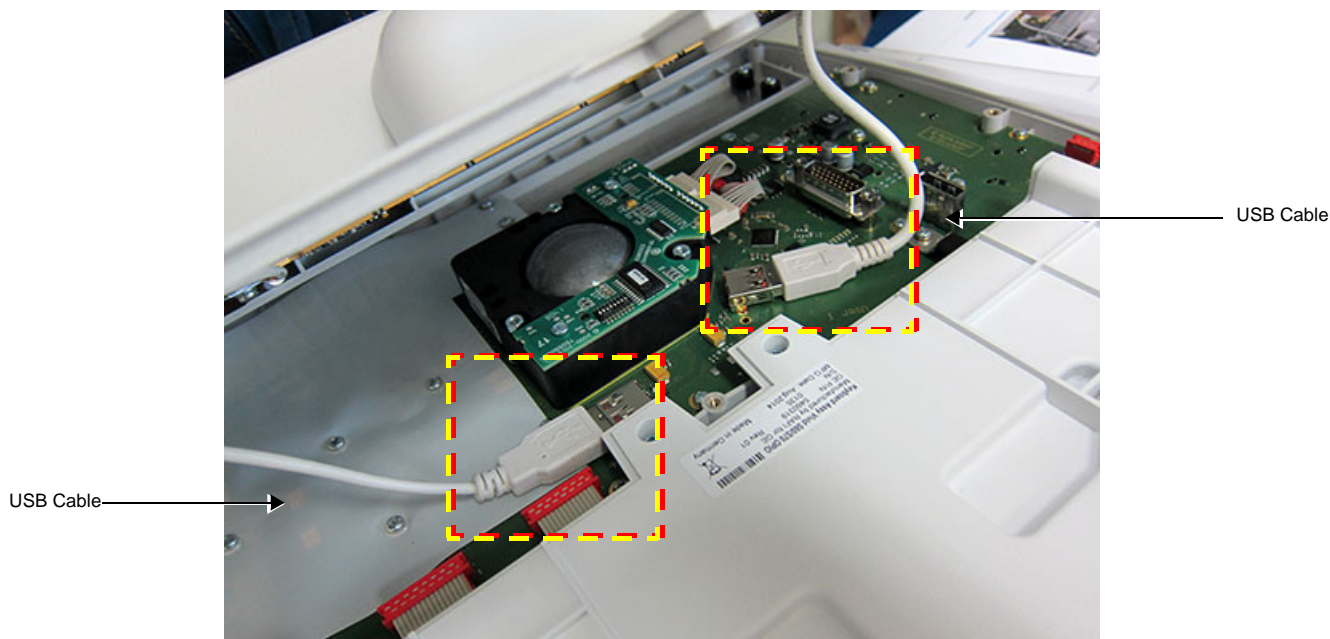

Figure 8-60 Location of USB Cables
- 4.) Gently lift the bottom cover (see note below) and disconnect the two USB cables from the side of the trackball, as shown in Figure 8-60 (see additional note below).